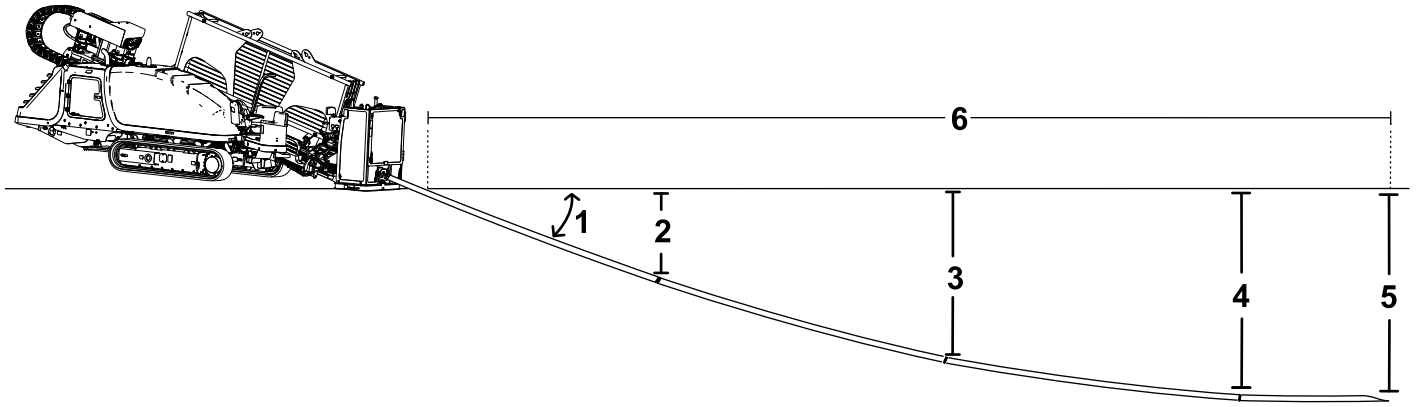

Figure 56
- Insert the first 3 m (10 ft) of drill bit/pipe into the ground with no steering. The end of the drill bit will be 53 cm (21 inches) deep (Figure 56).